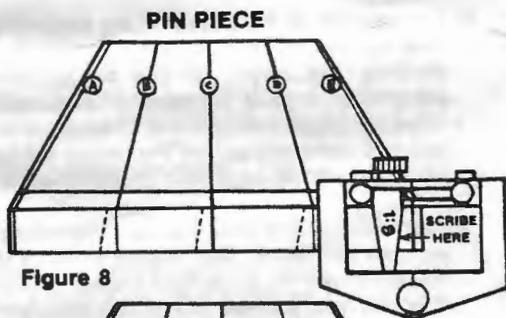

Figure 8
8) Now there is no need to saw down these sloped lines to use the tailpiece to mark the pins (as was conventionally done). Instead, simply apply the Dovetail gauge across the end of the pin piece. (Figure 8) With the tapered blade in the left position, line up the Dovetail gauge centre line with line B and scribe along the right side of the tapered blade. Now repeat this procedure on lines C.D. and E.